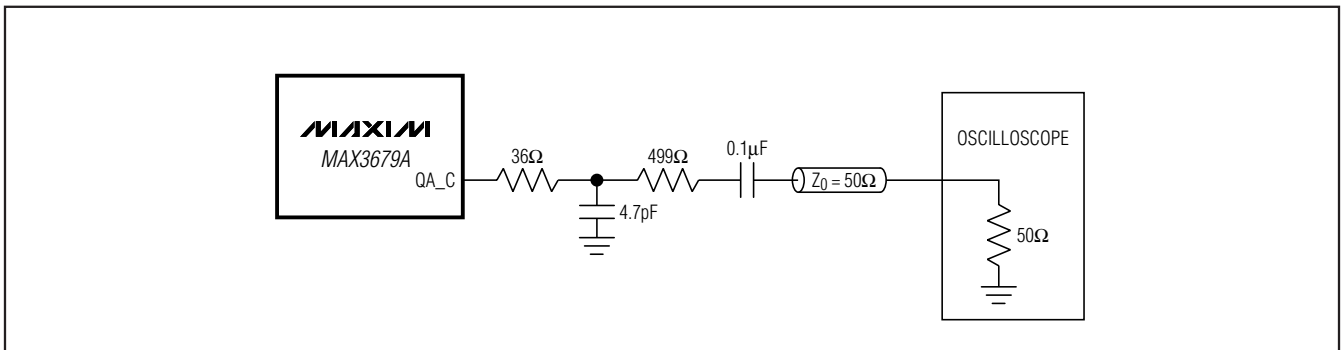

Figure 1. LVC MOS Output Measurement Setup
- Note 6:** Measured using setup shown in Figure 1 with $V_{CC} = 3.3V \pm 5\%$.